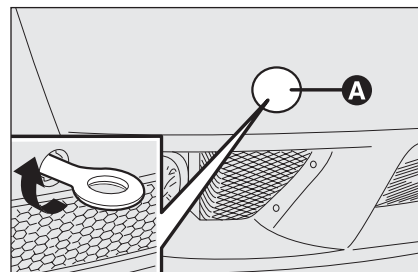

fig. 56
- ☐ remove the snap-fitted plug **A-fig. 56** from the front bumper. If using the flat blade screwdriver provided as standard, protect its tip with a soft cloth to prevent damaging the car.